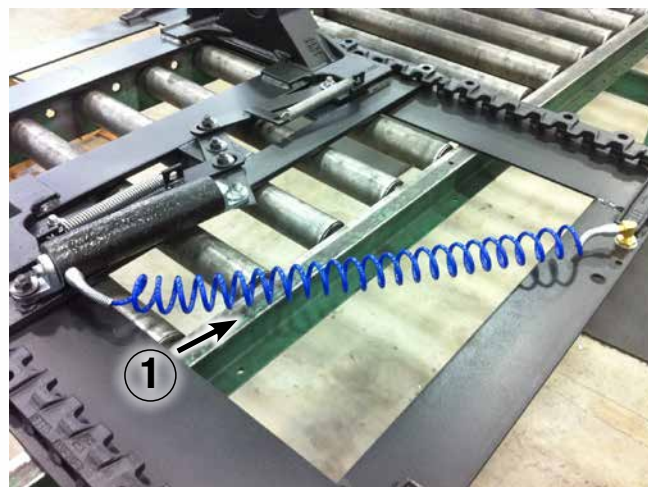

Figure 7: Completed air line coil assembly
7. Verify the finished assembly (Figure 7).